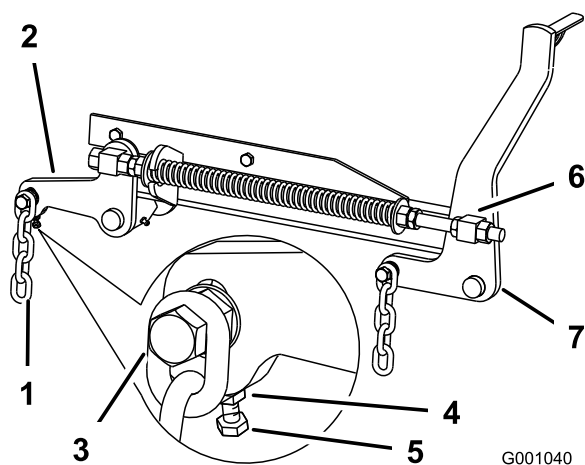

Figure 65
7. If the measurements at positions **B** or **C** are not correct, loosen the bolt attaching the rear chain to the rear support arm (Figure 65).
8. Loosen the jam nut under the rear support arm and adjust the adjustment bolt to get a measurement of 3-1/8 to 3-1/4 inches (80 to 83 mm)(Figure 65).
7. Loosen the front swivel jam nuts, at the front of the right and left swivels, approximately a 1/2 inch (13 mm) (Figure 65).
8. Adjust the lift nuts on both the left and the right side of the machine to achieve 1/4 to 3/8 inch (6 to 10 mm) lower in front at A than in the rear at B (Figure 65).